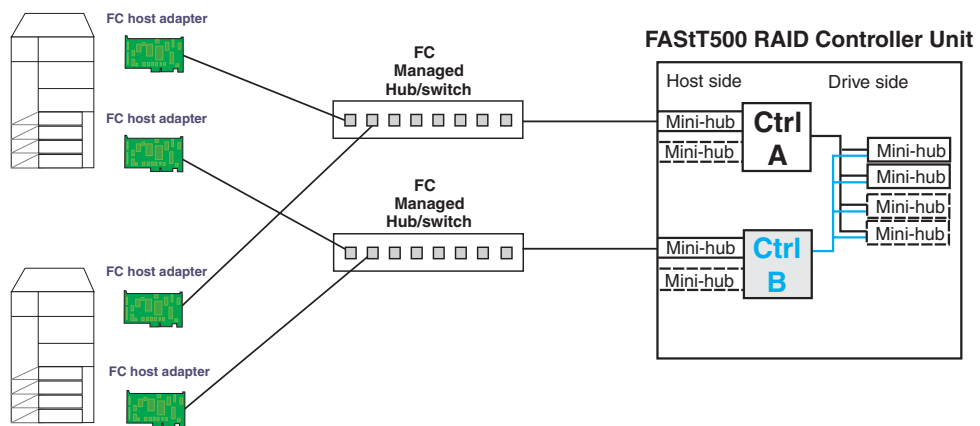

Figure 53. Passive controller B
1. One controller is passive. In the example shown in Figure 53, controller B is passive.